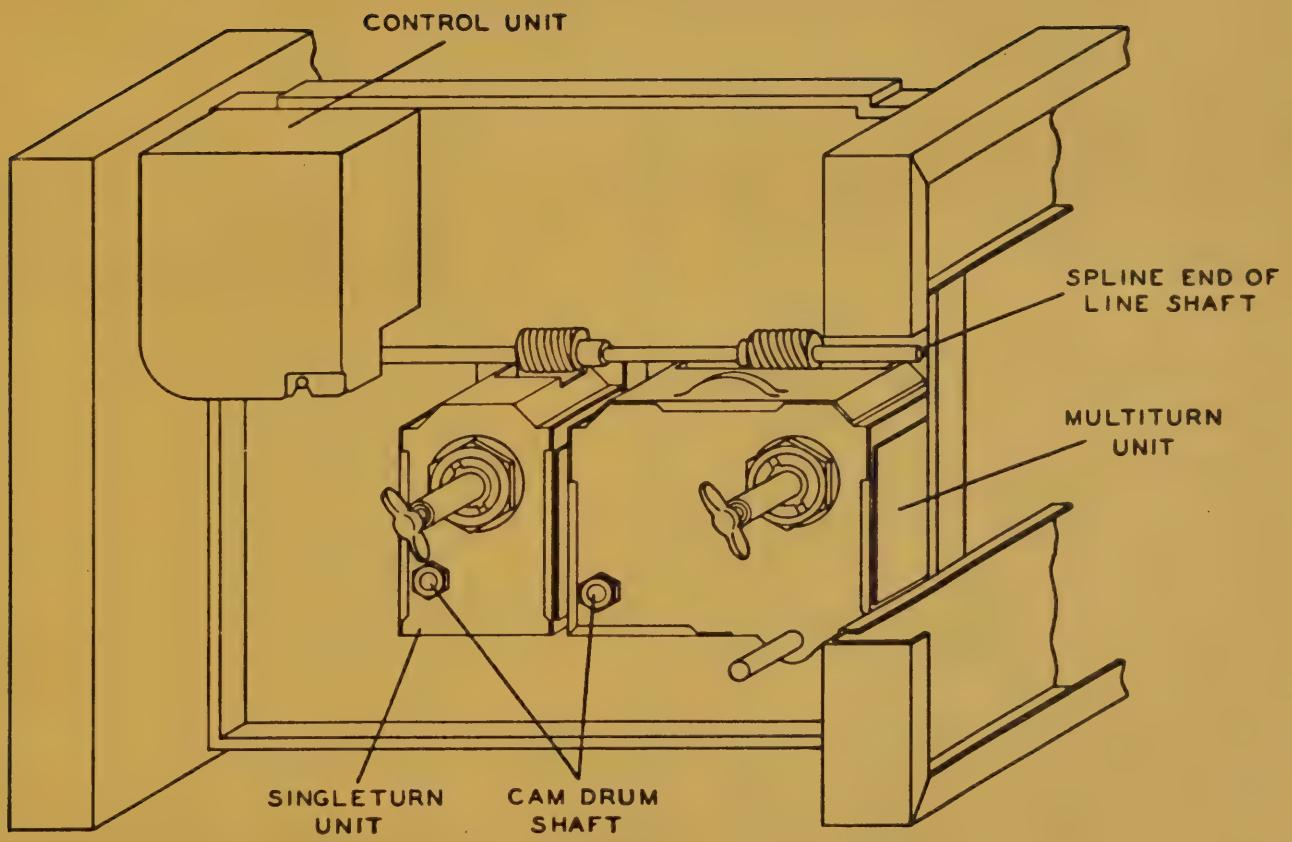

Figure 5-4 Autotune Synchronism Adjustments
2. Loosen the locking collar on the seeking switch drive shaft with a Phillips screwdriver. (Refer to figure 5-4.) Do not remove the locking collar from the shaft.
1. Insert a number 10 Bristo wrench into the end of the shaft of the cam drum of the multturn unit. (Refer to figure 5-4.)
12. Insert the Bristo wrench into the end of the cam drum. (Refer to figure 5-4.)